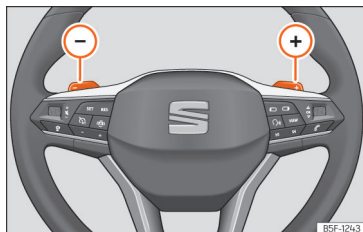

Fig. 100 Steering wheel: automatic gearbox levers
- Press the  gear shift paddle to change up a gear **»» Fig. 100**.